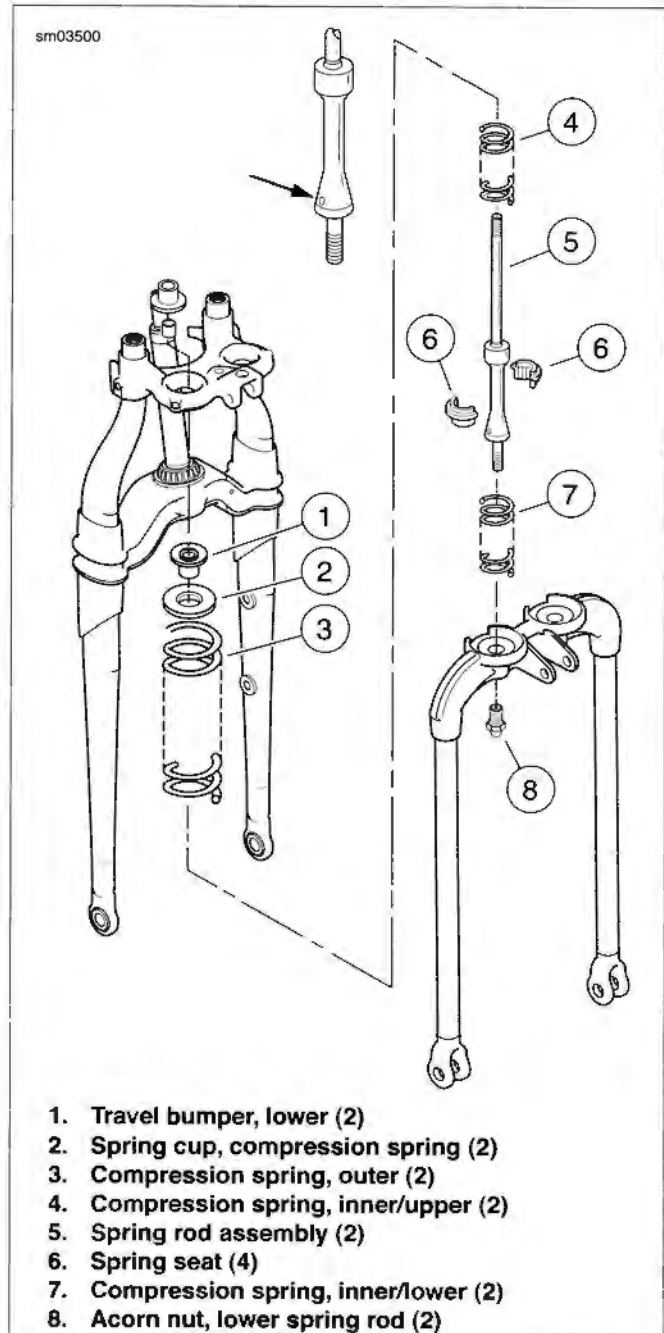

Figure 2-73. Compression Spring
- Inspect bearing (5) and replace if necessary.
15. See Figure 2-73. Remove compression spring cups (2) and lower rubber travel bumpers (1). Remove outer compression springs (3).
16. Remove inner/upper compression springs (4).
1. See Figure 2-73. Place both spring seats (6) on the spring rod assembly (5).
2. Place inner/lower compression spring (7) over lower spring rod and spring seats.
4. Install lower spring rod acorn nut (8).
5. Use a #2 Phillips head screwdriver in the cross-hole at the bottom of the spring rod assembly (5). Tighten lower spring rod acorn nut to 20-25 ft-lbs (27.1-33.9 Nm).
6. Place inner/upper compression spring (4) on spring seats.
7. Place outer compression spring (3) over the inside compression springs.
8. Install compression spring cup (2) and lower rubber travel bumpers (1).